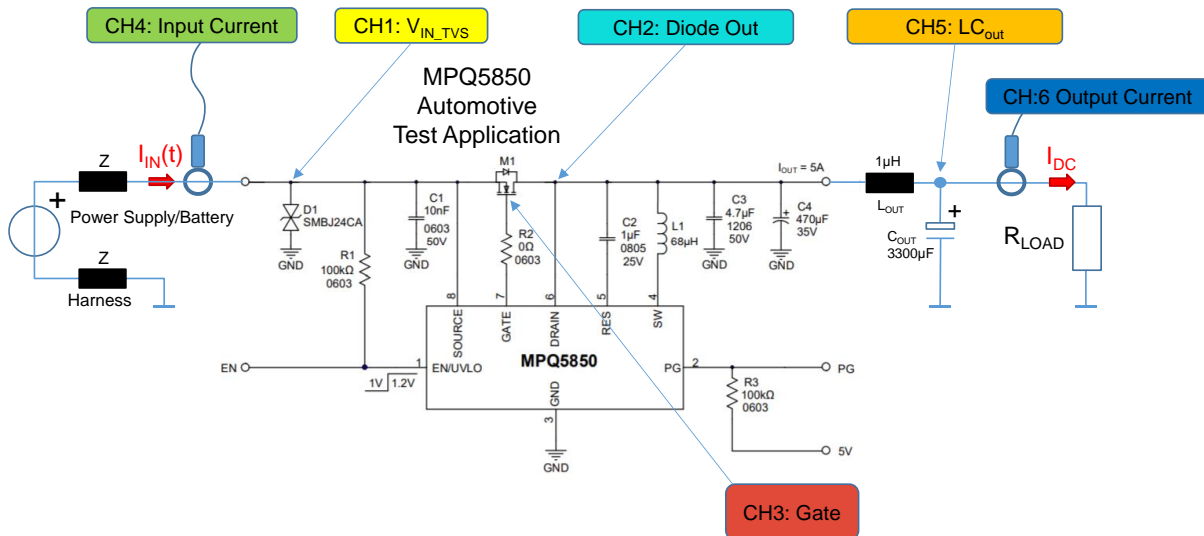
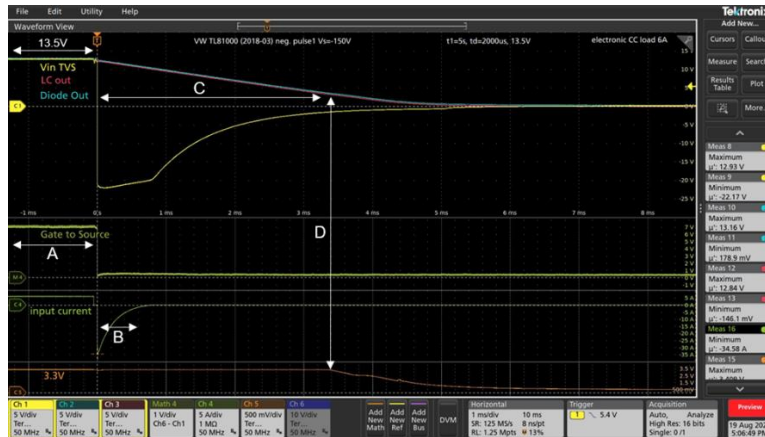

Figure 2: MPQ5850 Automotive Test Application for LV124 and ISO Pulse Measurements ⁽¹⁾ ⁽²⁾
Figure 5: ISO 7637-2 Test Pulse (Pulse Generator Amplitude = -150V, I_{LOAD} = 6A, 50cm Harness)
Figure 2 shows the typical application circuit used for LV124 and ISO pulse measurements. This circuit is suitable for a wide range of applications.
- 1) C1, C3, D1, and LC_{OUT} can be different from the values listed in Figure 2. The minimum C1 is 10nF. A larger C1 improves the stability of the source voltage (V_{SOURCE}). Choose C1 to meet the application's EMC requirements.
The MPQ5850 has a robust design to survive ISO pulses with the use of TVS diodes. Figure 5 shows an ISO7637 test pulse. See Figure 2 on page 5 for the schematic and oscilloscope channel names.
The following are the conditions of Figure 5: